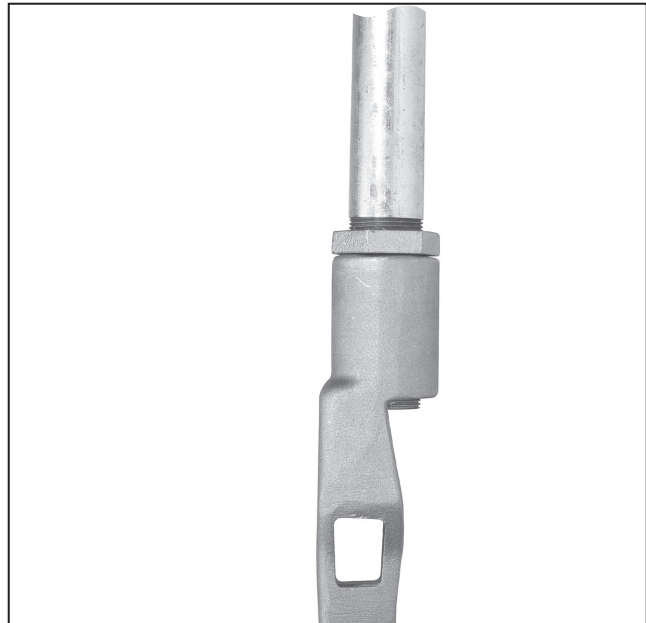

Figure 17. Installing the lowest operating pipe section into the operating handle assembly.
STEP 15. Install the lowest vertical operating-pipe section by threading one end of the pipe into the coupling on the operating handle assembly. Approximately ¼-inch (6 mm) of thread should extend through the coupling. Tighten the lock-nut. See Figure 17.